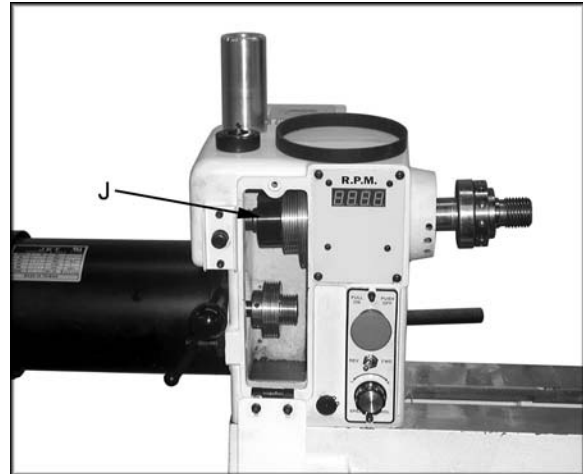

Figure 26
7. Loosen the setscrew in the collar (J, Figure 26)
8. Use a wood dowel, or aluminum stock to knock the spindle towards the tailstock. Use a material that is softer than the spindle so you do not mushroom the end of the spindle. Only go far enough to remove the belt from the spindle; see Figure 26.